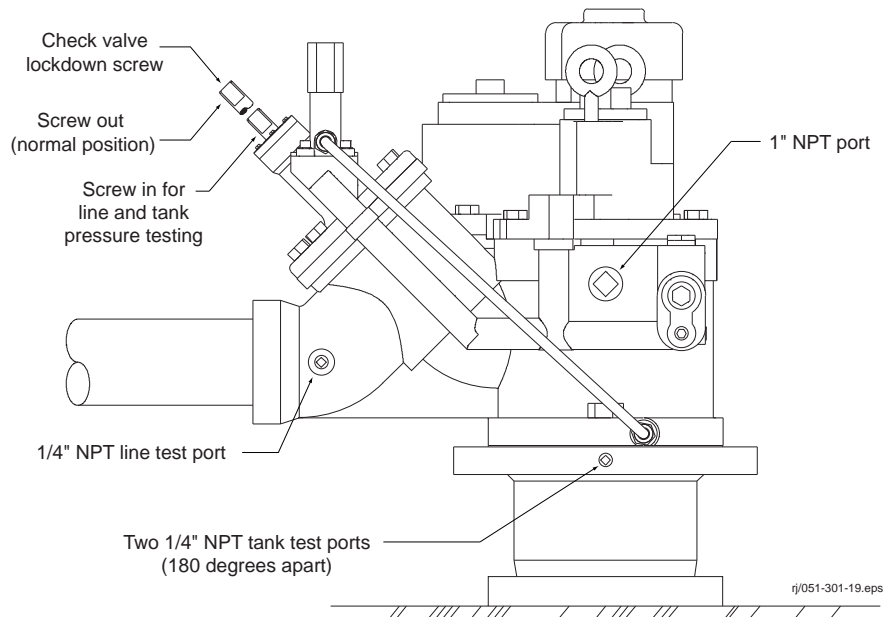

Figure 17. Maxxum Packer-Manifold Assembly: Line and Tank Testing
2. Lock down the pump check valve by turning the check valve lock down screw clockwise as far as it will turn (see Figure 17).
1. Lock down the pump check valve by turning the check valve lock down screw clockwise as far as it will turn (see Figure 17).